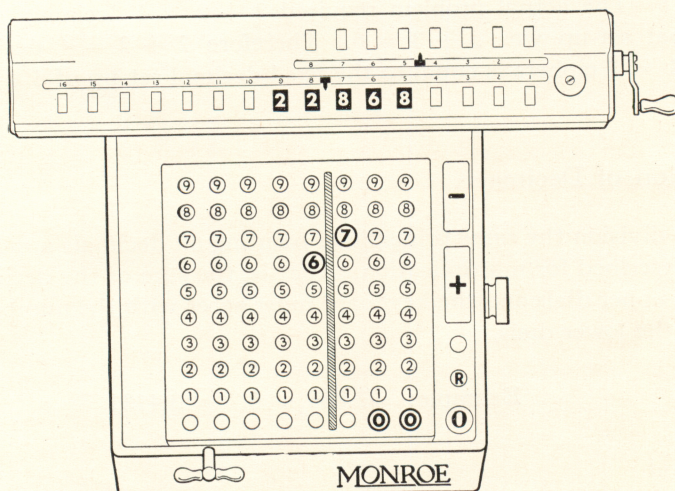

Figure 9
*Step 4*—The first operation is to add the dividend, 22.868, in the lower dials. Set 22.868 on the keyboard. Move the carriage to the “5” position so that 22.868 will show in the lower dials correctly pointed off at the decimal point in the 7th place. See Figure 9.
*Step 6*—Set 6.7 on the keyboard so that it appears as 6.700. Have the carriage in the “5” position so that 6.7 can be subtracted from the 22.8 of the dividend. See Figure 9.